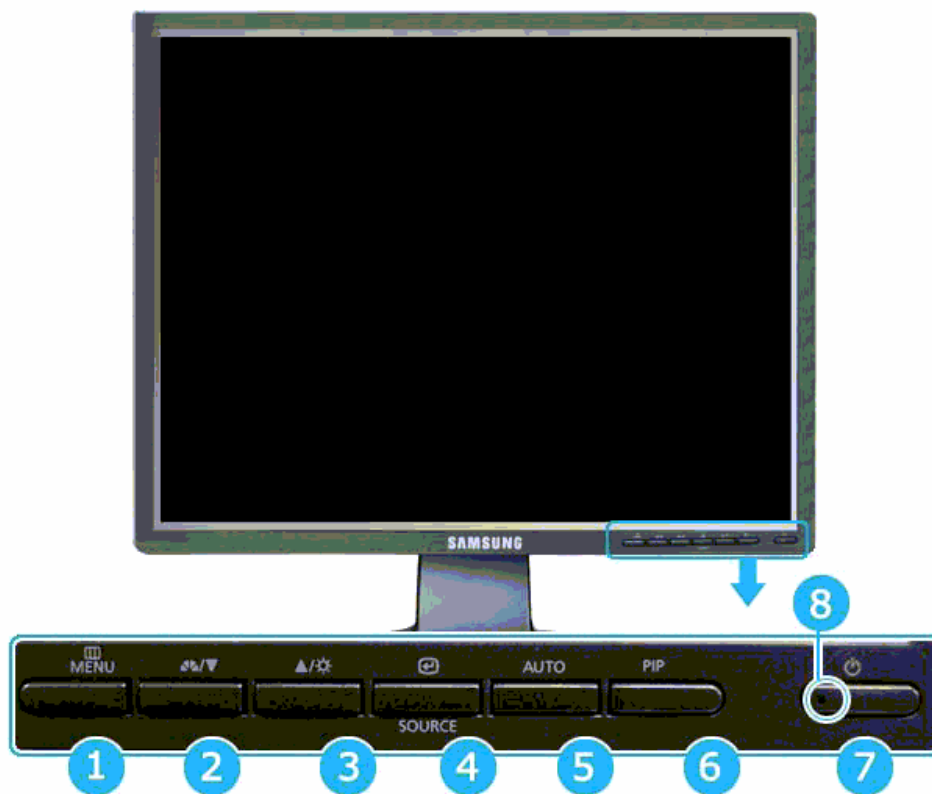

Figure 49 : SAMSUNG LCD214T Control panel
The control panel of the SAMSUNG LCD214T colour monitor control panel includes (See Figure 49) :
- If the screen is black, check the contrast and brightness controls. Refer to the description of the control panel on Figure 49.
To increase the working life of monitor, it is recommended to reduce the Brightness to 50%. To do that, execute the following action (refer to Figure 49):